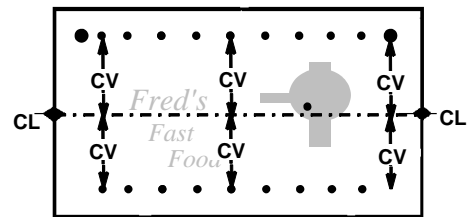

Figure 6. Measuring CV Outward From Centerlines
- Use the results for CV from Step H of the Worksheet. From several places along the **horizontal** centerline, measure the **vertical** dimension (CV) outward and mark. See Figure 6.